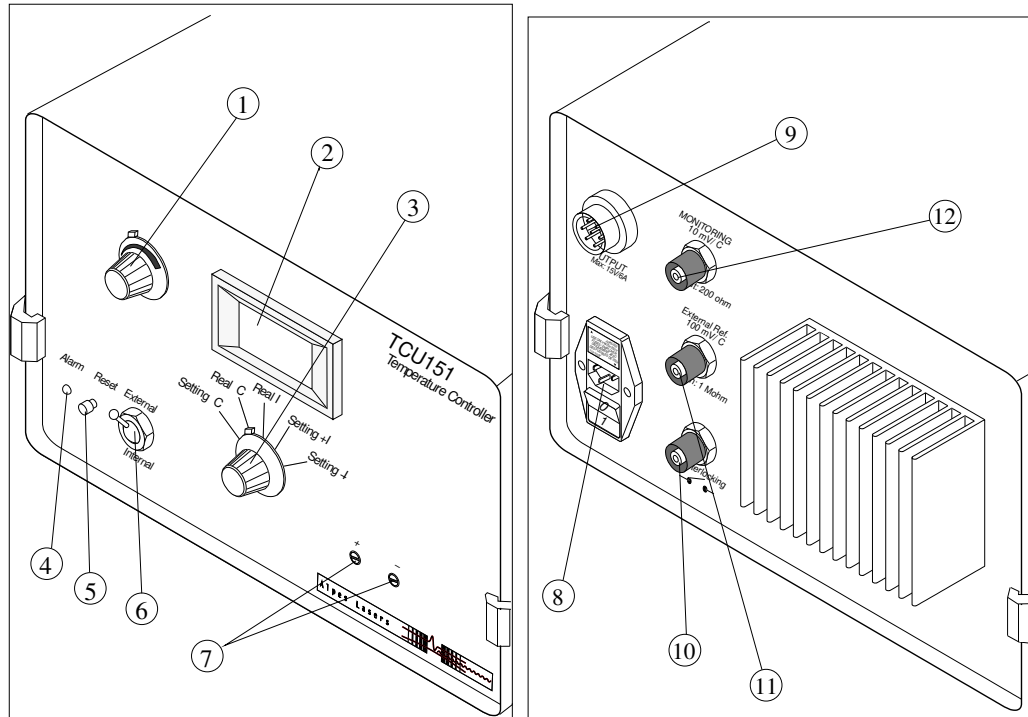

Figure 5.2.: TCU front (left) and rear (right) panels.
The TCU front and rear panels are shown in figure 5.2 and described below.
- a) select `Setting °C` using the switch (3) shown in figure 5.2 to display the desired temperature
- b) turn the knob (5) to set the temperature to the desired value
- c) select `Real °C` using the switch (3) to display the actual temperature